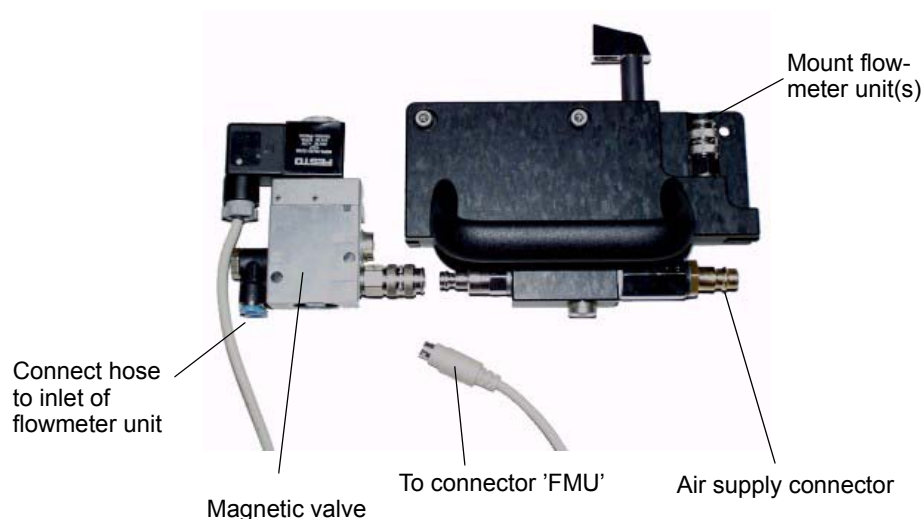

Fig. 7 - 2 Connecting the magnetic valve
2. Connect the magnetic valve to the quick connector on the lower left side of the handle (see Fig. 7 - 2). Then connect the cable to the connector marked 'FMU' on the side panel of the instrument